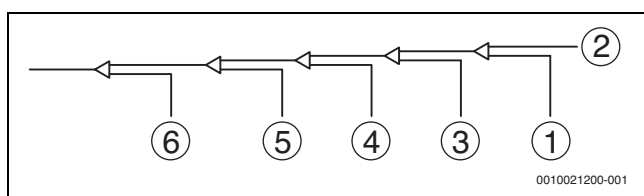

Fig. 14
8. Flush the other openings in the same manner, working in sequence from indoor unit A towards the outdoor units. Refer to Figure 14.